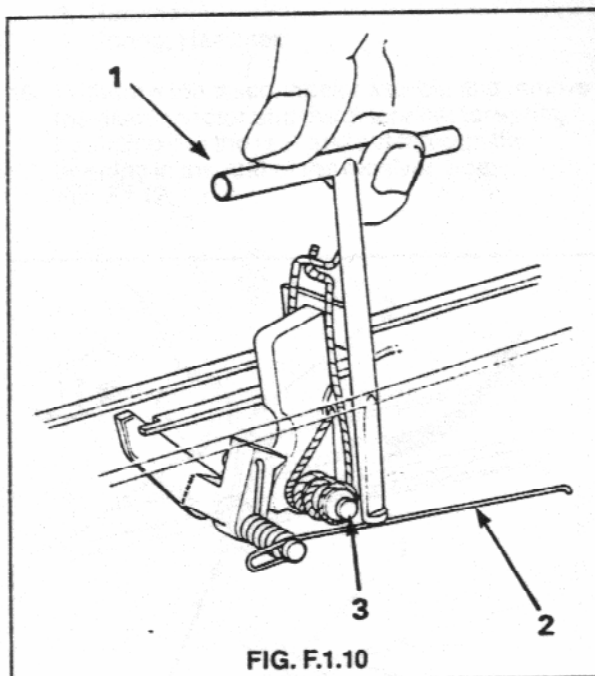

FIG. F.1.10
8. Using the disconnecter spring tool, apply pressure to the disconnecter spring to force it down out of the groove in the hammer axis pin. See Fig. F.1.10.